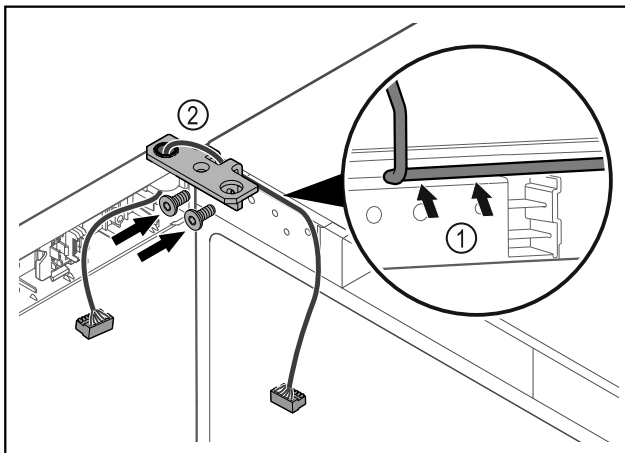

Fig. 61
- Feed the cable through the recess in the hinge and lay it carefully Fig. 61 (1).
- Screw on the hinge Fig. 61 (2).